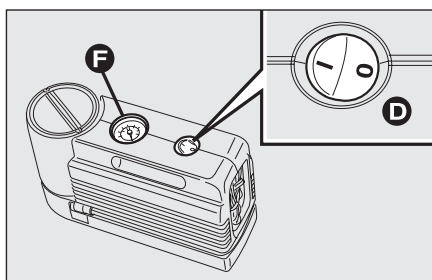
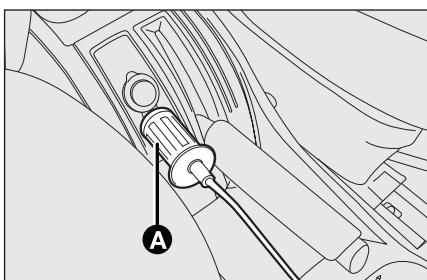

fig. 6
fig. 7
- ☐ make sure that the switch **D-fig. 6** of the compressor is in position **0** (off), start the engine, insert plug **A-fig. 7** into the cigar lighter (or 12V socket) and operate the compressor by taking the switch **D** to position **I** (on). Inflate the tyre to the pressure specified in the "Inflation pressure" paragraph, "Technical Specifications" chapter.